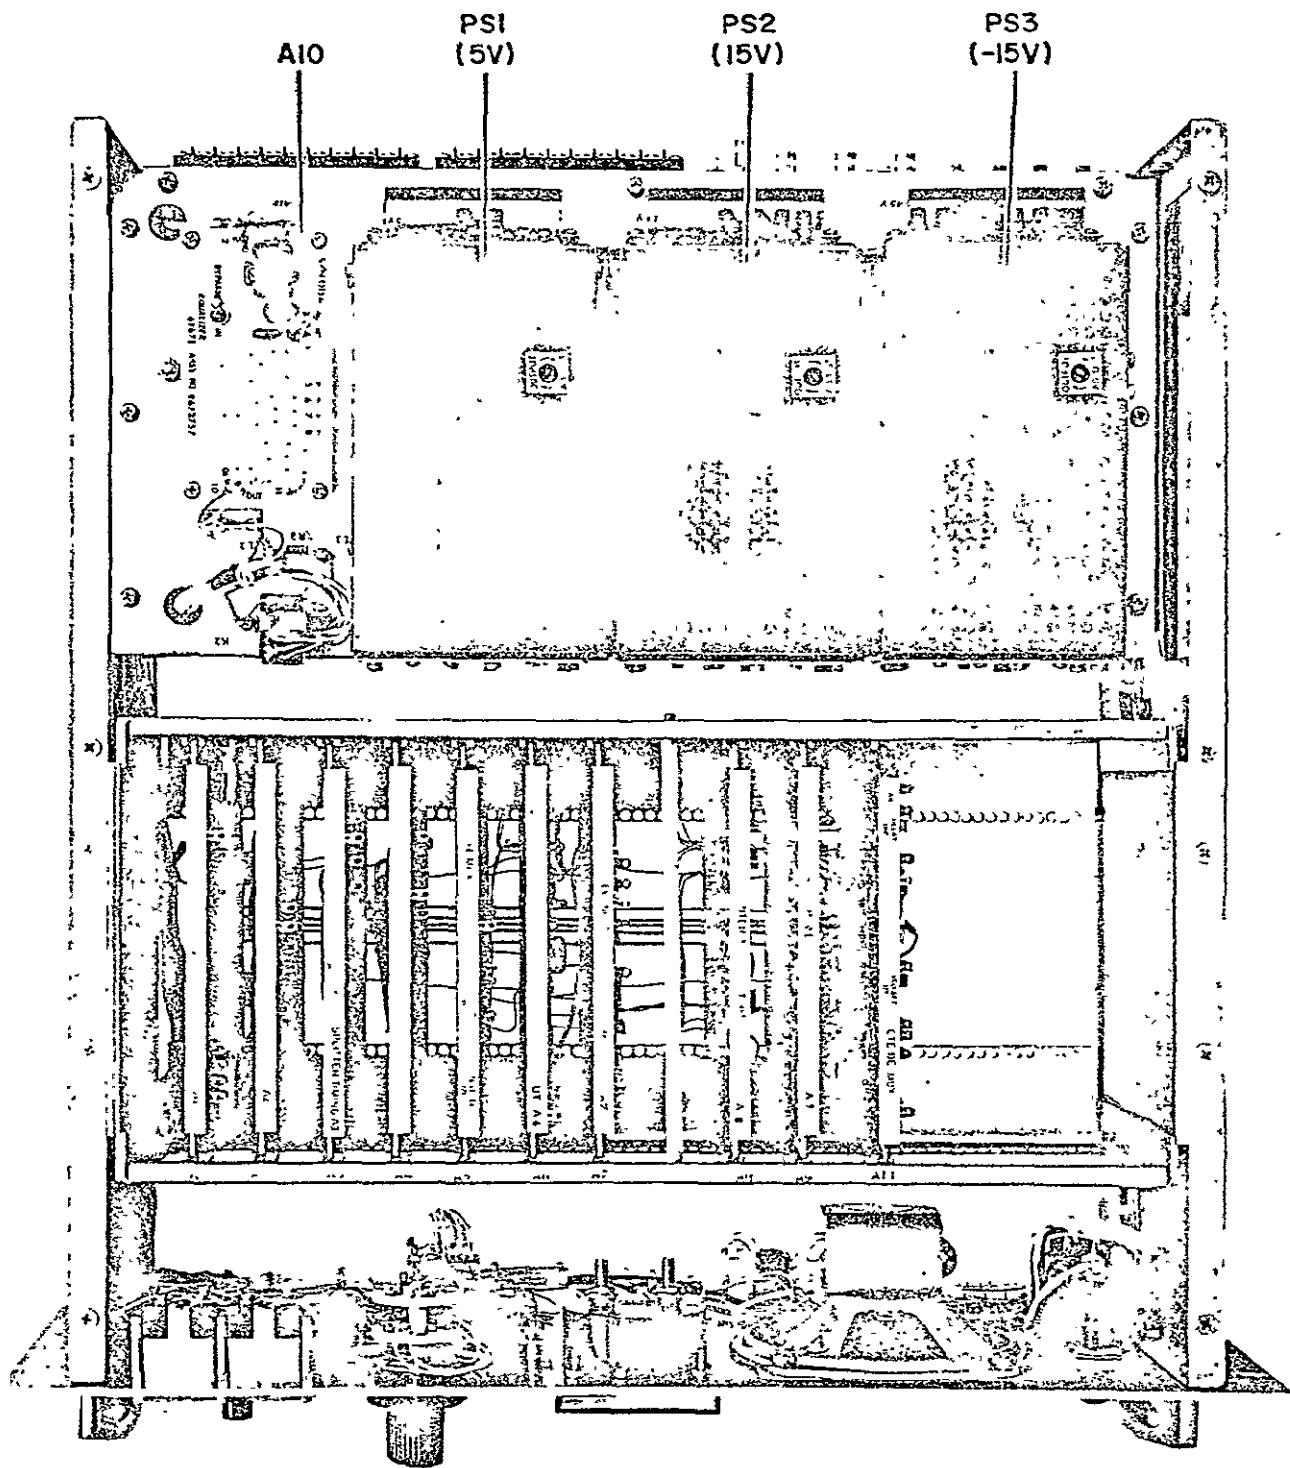

Figure 5-1. Audio/CTE Splitter/Interleaver, Top View
Maintenance of the Audio/CTE Splitter/Interleaver is relatively simple since it may be readily checked while installed in a rack. All inputs and outputs may be checked using an oscilloscope at test jacks on the front panel. Test jacks are provided on the plug-in modules so that key points in the circuits may be easily monitored by retracting the unit from the rack, on its slides and using an oscilloscope (refer to Figure 5-1).
3. Figure 5-1. Audio/CTE Splitter/Interleaver, Top View.